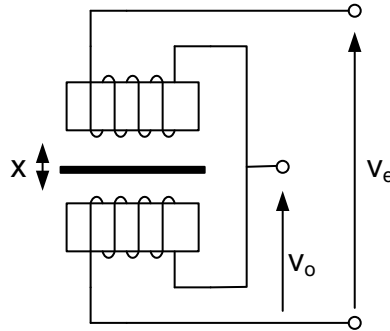
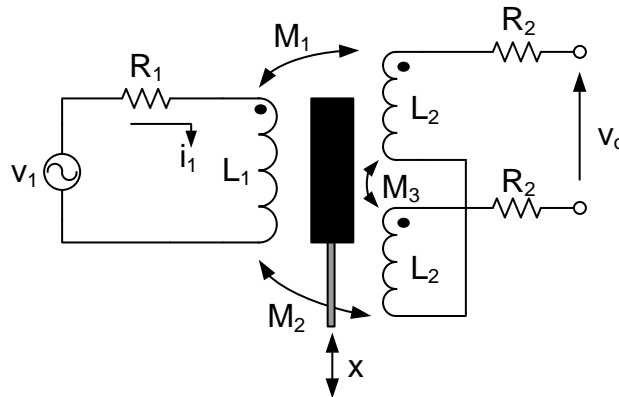
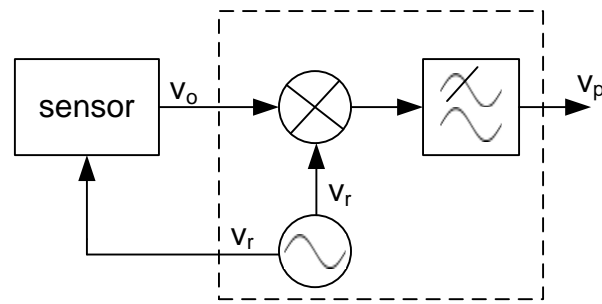

Figure 3: Inductive sensor based on two coils in series.
Figure 4: LVDT sensor.
Figure 5: Sensor with phase sensitive detector.
Figure 3 shows a two coil based linear displacement transformer that can be used to sense the displacement of an object over a distance x . The two coils each consist of N windings and are connected in series to each other. An excitation voltage v_e is placed over the two coils. The voltage drop over one of the coil (i.e., lower coil in Figure 3) is used as the output voltage v_o of the sensor.
(5p) (c) The linear variable differential transducer (LVDT) shown in Figure 4 is often used to sense displacements instead of the two coil sensor shown in Figure 3. When a purely resistive load R_L is connected to the output of the sensor, its output voltage is equal to:
- (5p) (d) The displacement sensor from Figure 4 is connected to a phase sensitive detector. This detector consists of an analog multiplier connected to a low-pass filter. Using this processing circuit, it is possible to recover the magnitude and direction of the displacement from the output signal of the sensor. The block diagram of a phase sensitive detector is shown in Figure 5. The displacement of the object is given as a function $x(t)$. Assume further that the reference voltage v_r is equal to: